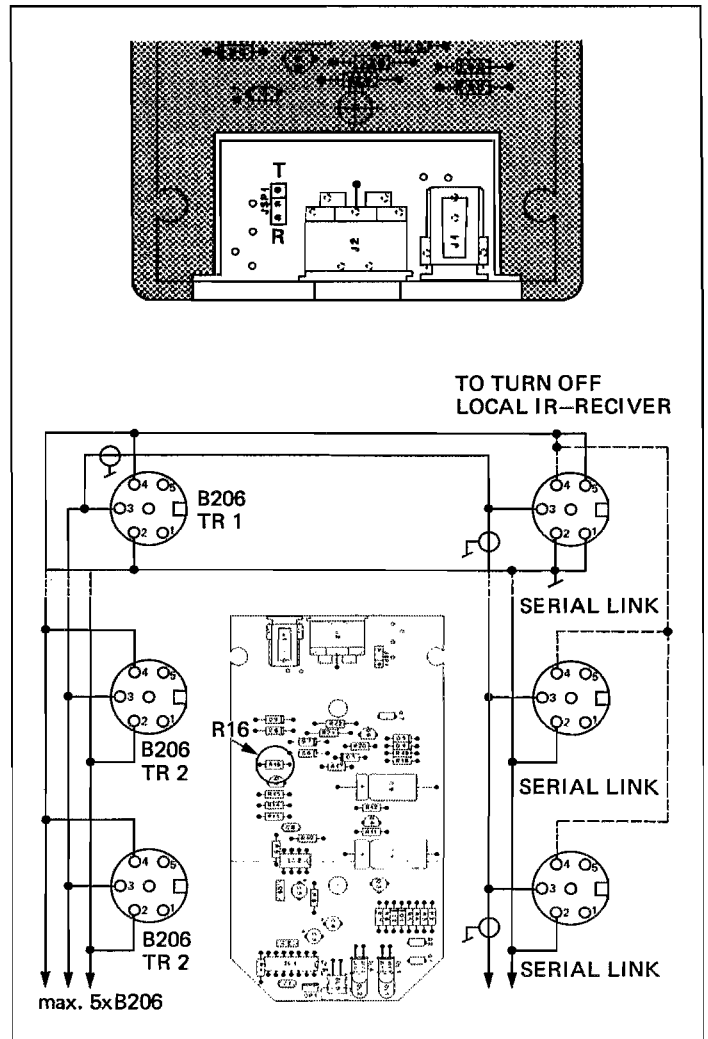

Fig. 4.1
2. Wire DIN connector for B206 Transceiver and the SERIAL LINK socket according to Fig. 4.1.
As can be seen from Fig. 4.1, several B206 Transceivers as well as several REVOX units can be connected in parallel with SERIAL LINK sockets. The installation must be executed very carefully and the connecting cables should be prepared by an experienced technician.
\* On all units with SERIAL LINK the internal IR receiver can be switched off. (In the connector link pin4 with pin5, as well as pin1 with pin 2. Caution in the case of parallel-connected units: see Fig. 4.1.)